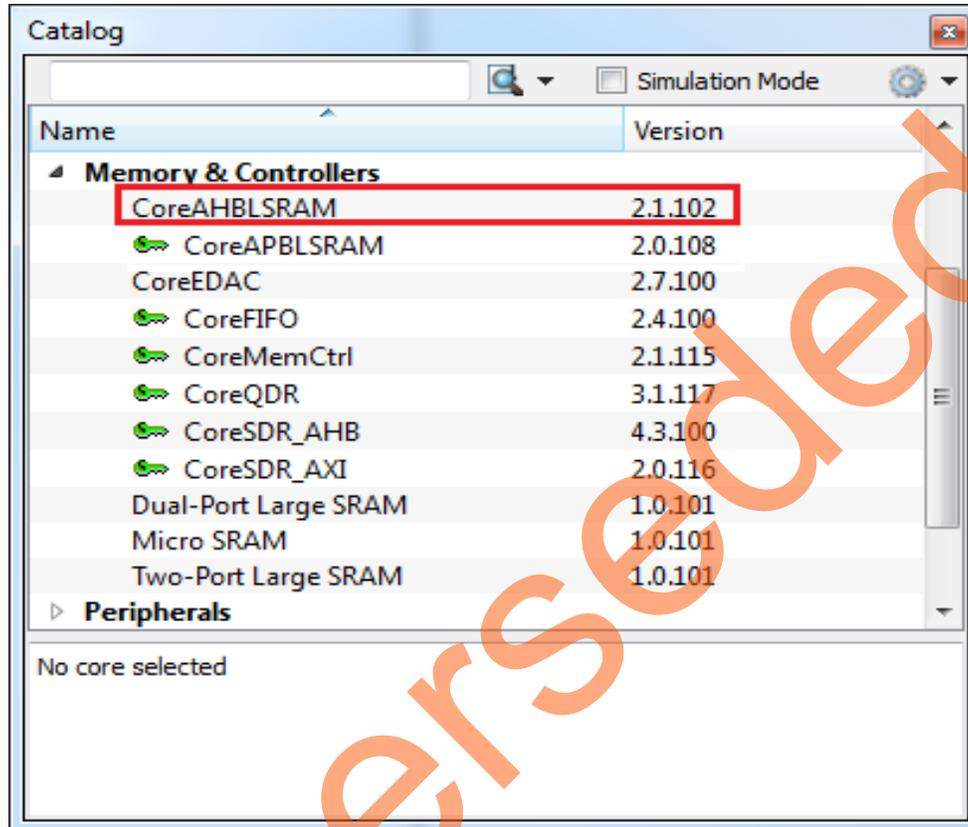

Figure 24 • IP Catalog
1. Expand the **Memory & Controllers** category in the Libero SoC **Catalog** as displayed in Figure 24.